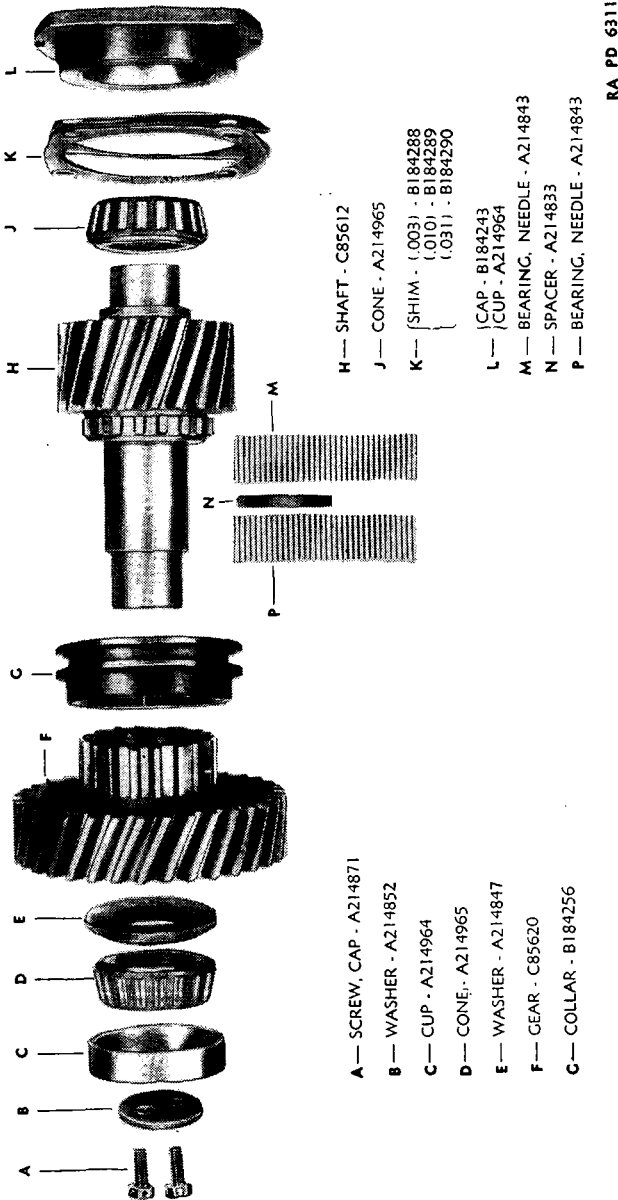

FIGURE 117.—Transfer case intermediate shaft, exploded.
ers (BECX1L) holding intermediate shaft rear bearing cap (B184243) to case, and pry off cap and shims (B184288, B184289, and B184290, fig. 117).
(10) Remove intermediate shaft front bearing cone retainer washer—cutting pliers, $\frac{9}{16}$ -inch socket wrench. Remove locking wire and two cap screws (A214871) from front end of intermediate shaft and remove bearing cone retainer washer (A214852) (fig. 117).
(12) Remove intermediate shaft bearing cups—brass drift, hammer. Drive cups (A214964) out of front end of case and out of rear bearing cap (fig. 117).
(13) Remove mainshaft companion flange—cutting pliers, 1½-inch socket wrench, puller. Remove coter pin (BFAX1DM), slotted nut